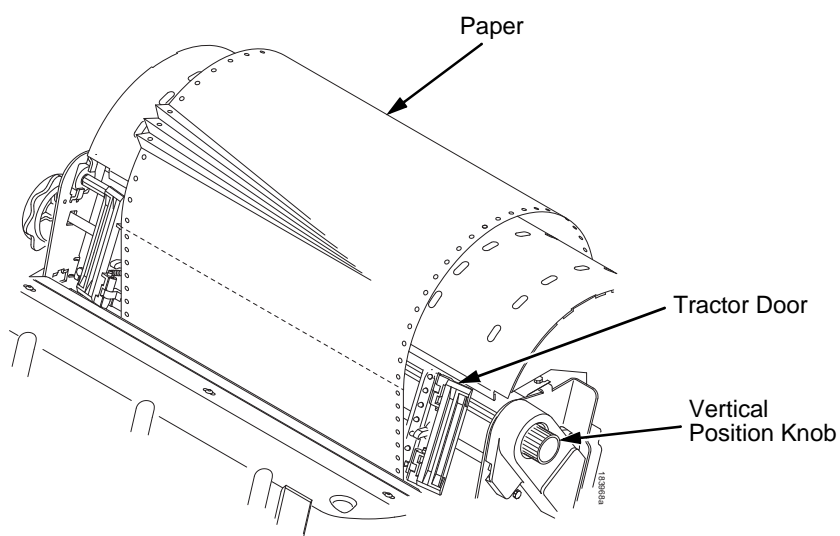

Figure 14. Clearing a Paper Jam
4. Inspect the paper path and tractors for jammed or torn paper. Remove any pieces of paper by turning the vertical position knob (see Figure 14).